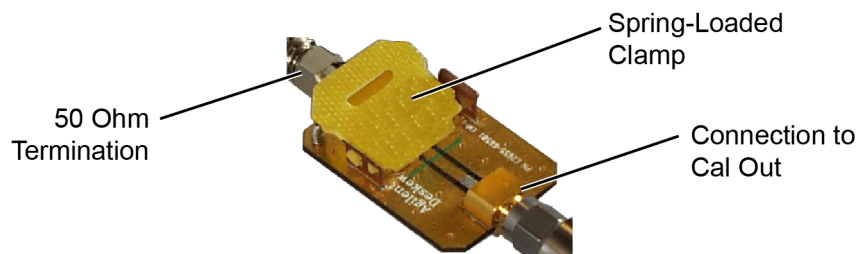

Figure 20 E2655B PV Fixture with 50 Ohm Termination
- Connect the PV fixture's input to the oscilloscope's calibration output. Connect a 50 ohm terminator to the PV's output as shown in **Figure 20**.